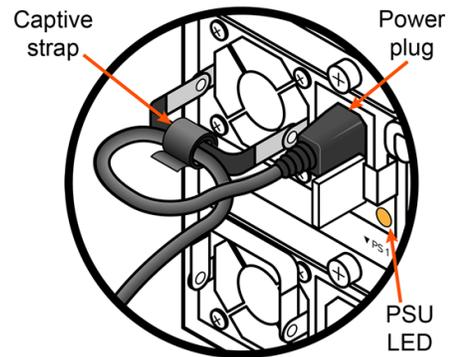

Figure 4-4. Removing the Power Plug
1. Unwrap the captive strap. See Figure 4-4.
1. Lower the power supply handle, make a loop in the replacement power cord near the plug, and wrap the captive strap around the loop, securing the cord to the handle. See Figure 4-4.